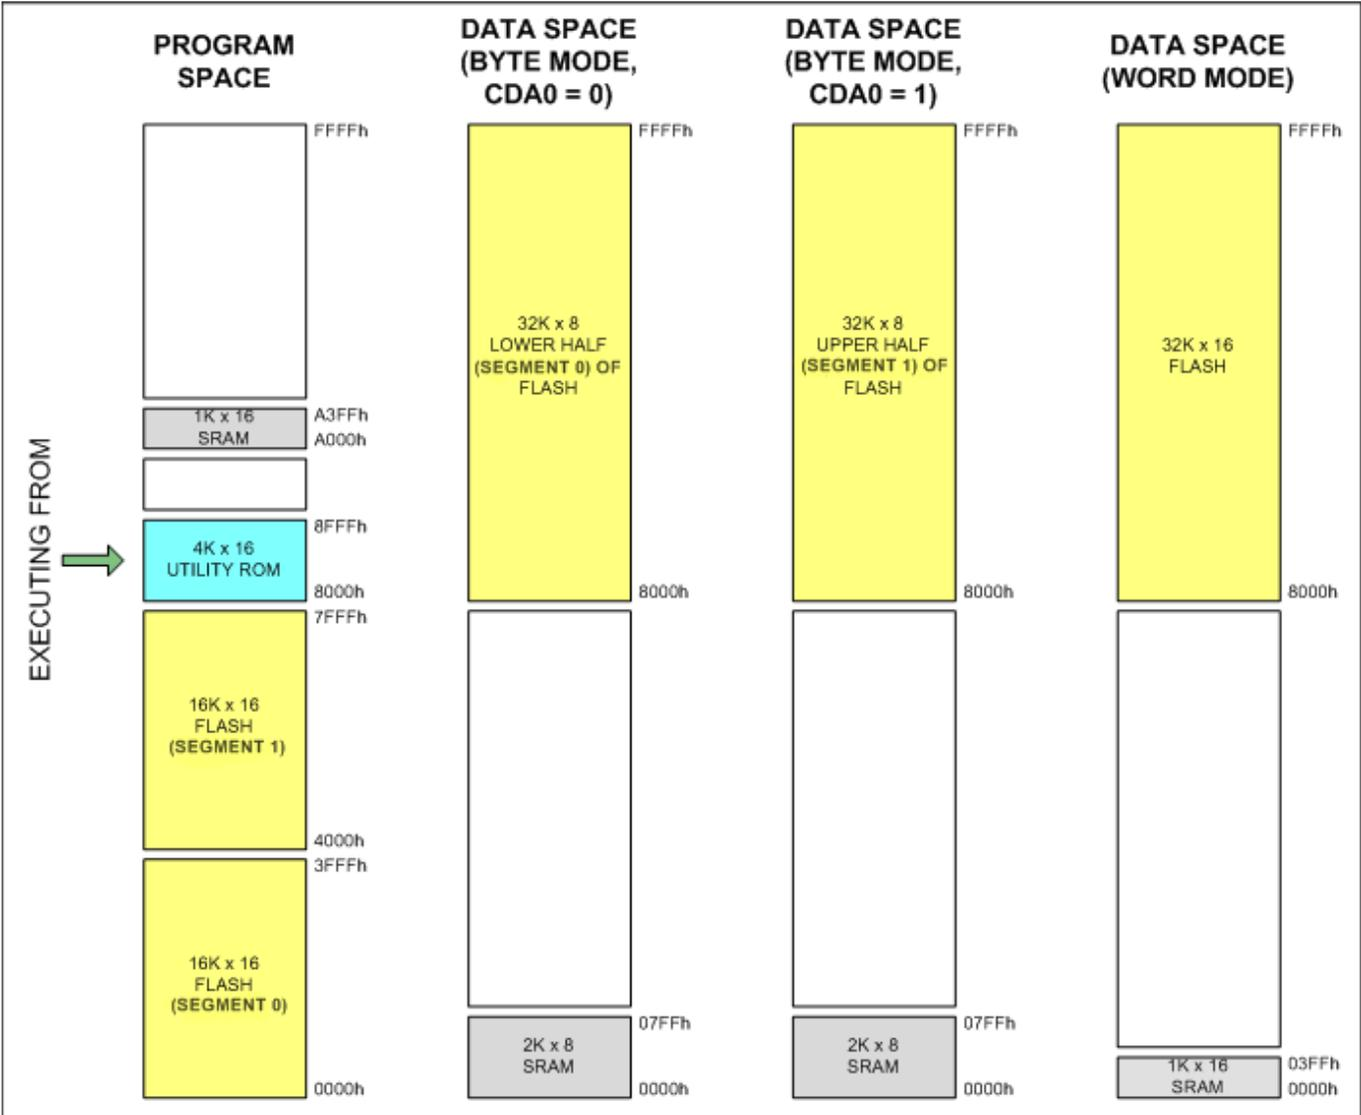

Figure 25-1: Memory Map when Executing from Utility ROM
Since these functions are executed from utility ROM, addresses must be specified correctly to point to the intended memory segments. When executing from utility ROM, the memory map is illustrated in Figure 25-1. For example, data located at word address 0100h in the FLASH must be accessed at word address 8100h (or byte address 8200h) when using any of the functions listed in the following sections.
- The address passed to this function should be based on the data memory mapping for the utility ROM, as shown in Figure 25-1. When a byte mode address is used, CDA0 must be set appropriately to access either the upper or lower half of program flash memory.